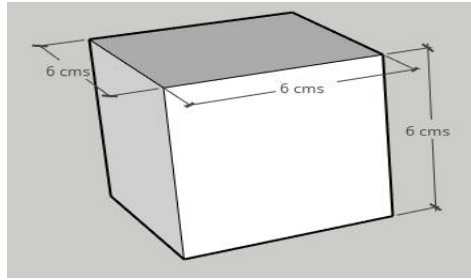

Figure 3A: CM (Plain)
- Dimension of each block is 6 x 6 x 6 cms as shown in Figure 3A (if the Thermocol sheets of required dimensions are not available then the teams may cut or join the available sheets on their own to build the blocks of the mentioned proportions).